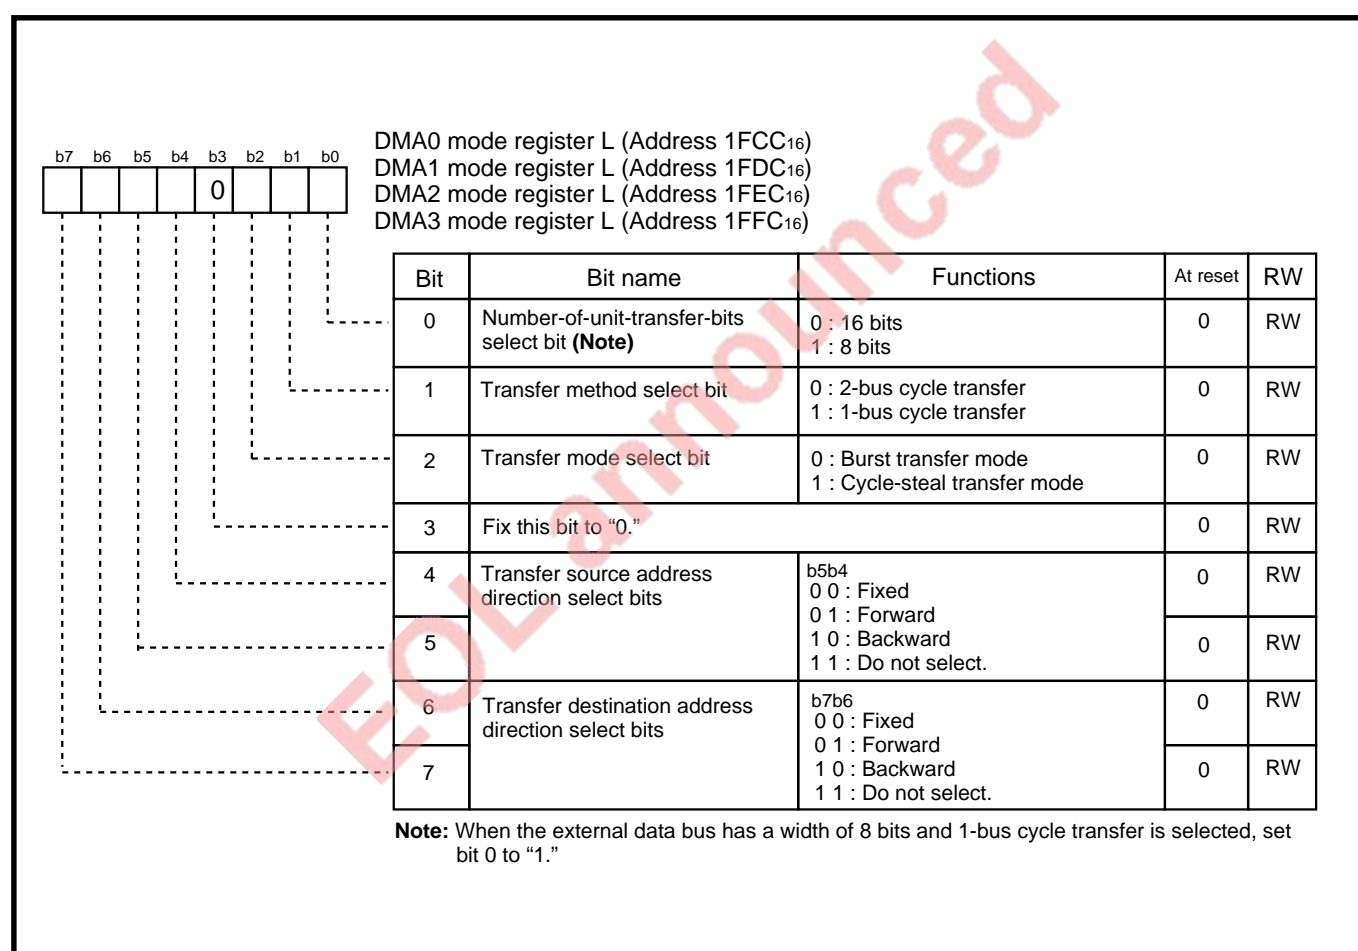

Fig. 13.2.6 Structure of DMAi mode register L
Figure 13.2.6 shows the structure of DMAi mode register L. For bit 0, refer to section “13.1.3 (2) Transfer unit.” For bit 1, refer to section “13.4.1 2-bus cycle transfer” and section “13.4.2 1-bus cycle transfer”; for bit 2, refer to section “13.4.3 Burst transfer mode” and section “13.4.4 Cycle-steal transfer mode.”